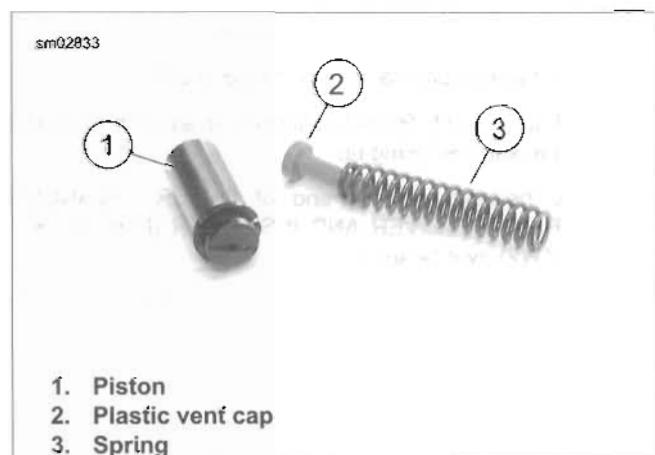

Figure 3-158. Hydraulic Tensioners
- See Figure 3-158. Disassemble components. Verify plastic vent cap (2) is on spring (3) and seated under tensioner piston (1). Minimum free length for spring (3) is 1.85 in. (47.0 mm).
- Inspect exterior surface of piston (1) for damage. While some moderate amount of polishing is normal, surface pitting is cause for piston replacement.